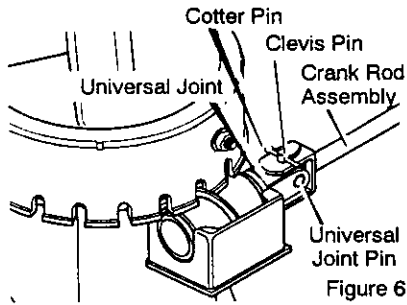

Figure 6
7. Carefully remove **cotter pin**, **clevis pin** and **universal joint pin** from yoke end of **crank rod assembly**. See Figure 6.